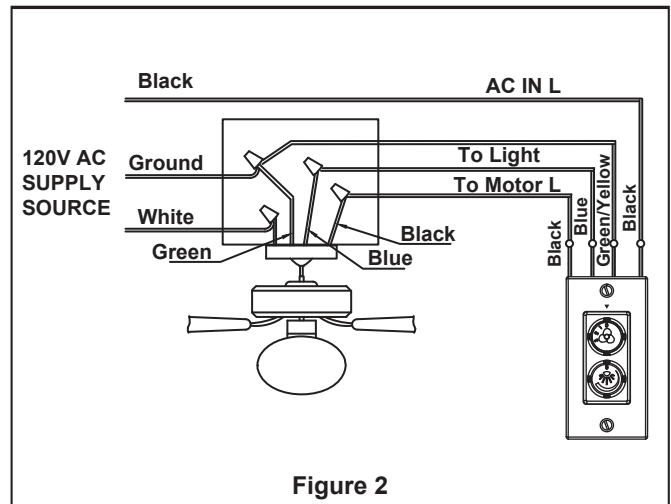

Figure 2
- ☐ 1. Securely attach the outlet box **acceptable for ceiling fan support** into the building structure. Outlet box is not supplied with the fan. (Figure 2)
- ☐ 2. Set the knob and light switch of the wall-mounted control in the off (0) position.
- ☐ 3. Make wire connections and secure with wire nuts supplied. (Figure 2)
2. Assemble the motor assembly to ceiling bracket using the previously removed screws and securely tighten all screws. (Figure 2)